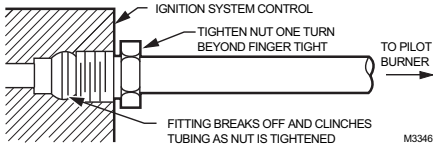

Fig. 6. Always use new compression fitting.
- Unscrew the brass compression fitting from the pilot outlet (Fig. 5). Slip the fitting over the tubing and slide out of the way. See Fig. 6.